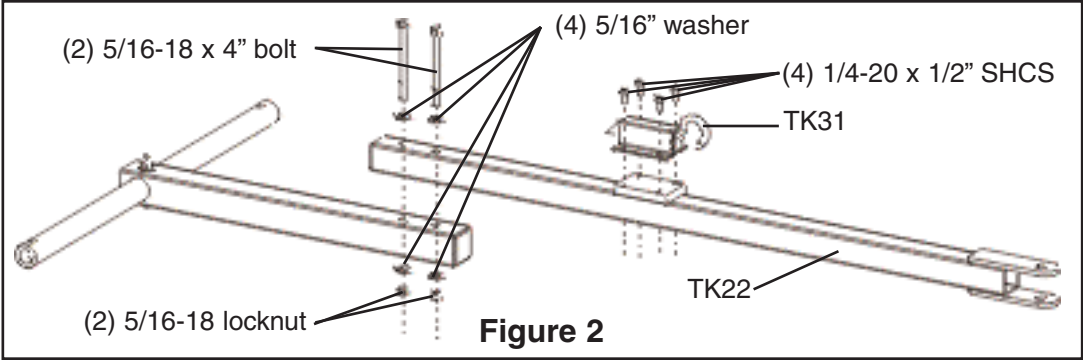

Figure 2
2. Attach the front trailer tongue (TK22) to the rear tongue using (2) 5/16-18 x 4" bolts, (4) 5/16" washers, and (2) 5/16-18 biway locknuts. Make sure that the two tubes are aligned as straight as possible before tightening. Assemble the trailer latch (TK31) to the front tongue with the handle facing the front of the trailer using (4) 1/4-20 x 1/2" socket head cap screws. Tighten all fasteners when finished. See Figure 2.